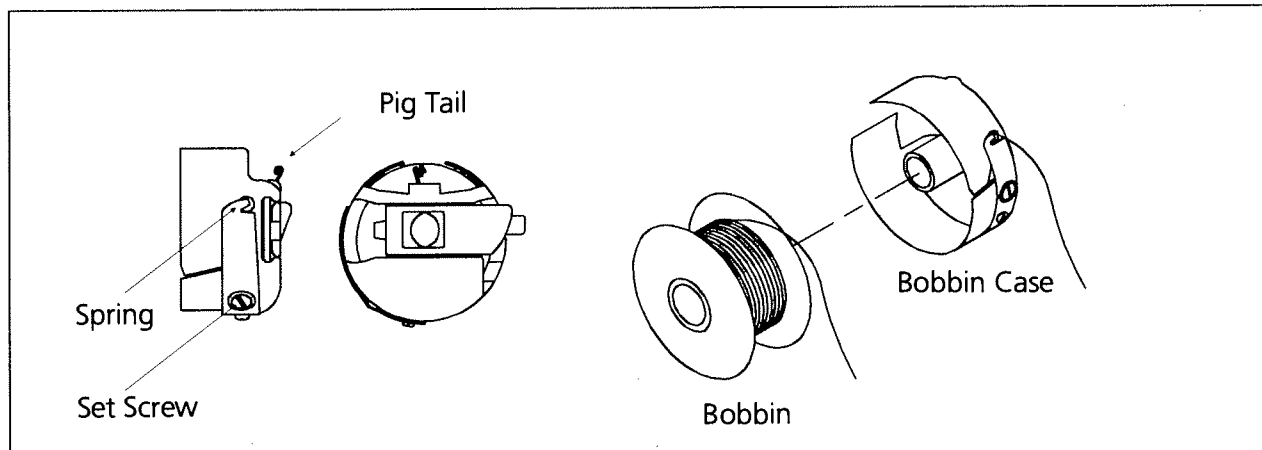

Figure 4-10
3. To see how the bobbin spool fits into the bobbin case, remove it and replace it as illustrated in Figure 4-10. When looking at the bobbin from the thread side, it should rotate **clockwise** within the case when you pull on the thread.